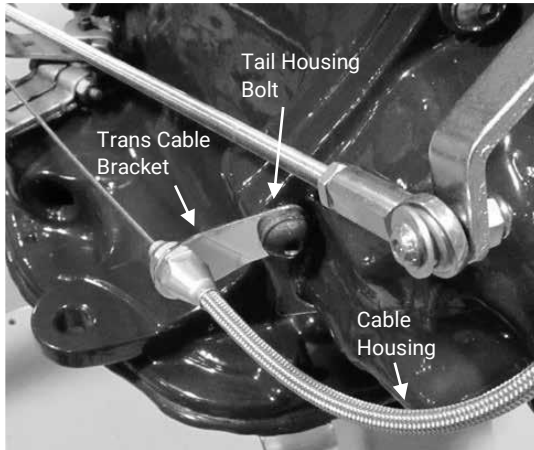

Figure 3
2. Remove the lower left tail housing bolt from the transmission. Install the trans cable bracket and the cable housing onto the tail housing bolt, and reinstall onto the transmission as shown in Fig. 3.